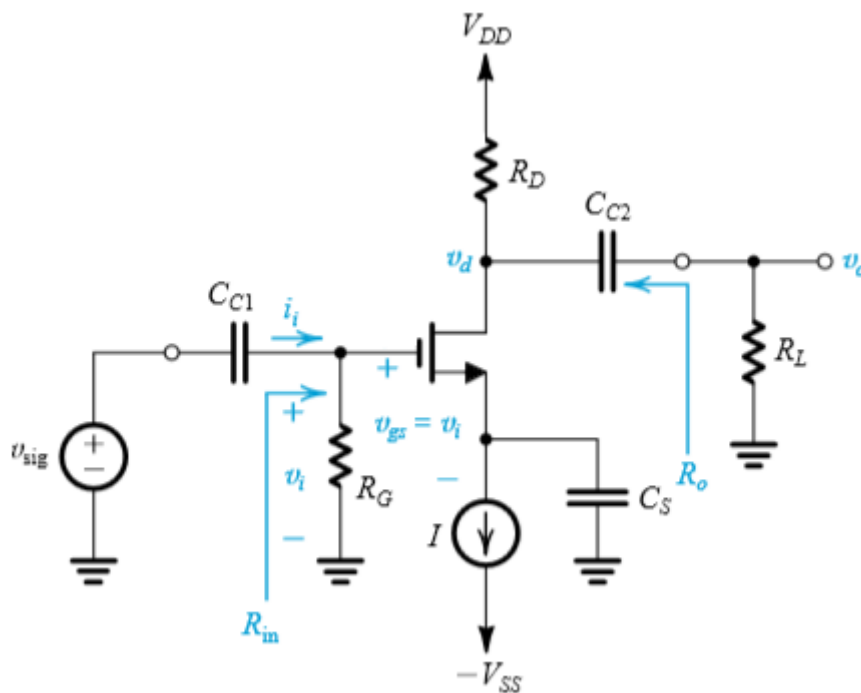
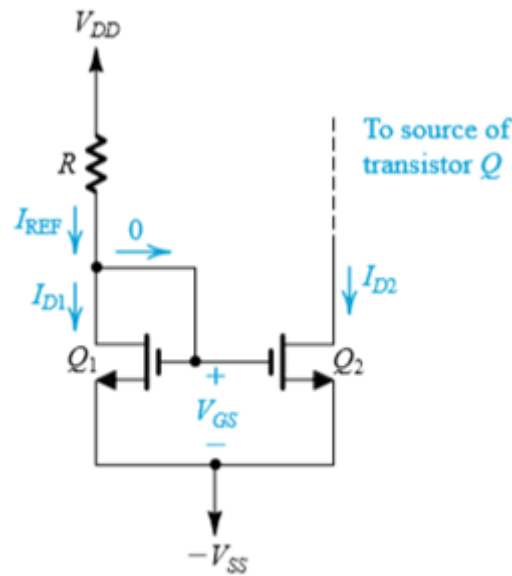

Figure 6: Common-source amplifier circuit with constant current source biasing
Figure 7: Constant-current source circuit to be used for CS amplifier biasing
The current-mirror circuit implemented in Task 4 using MOSFETs can be used as current source for MOSFET biasing. Here,  $R_G$  resistor (usually in range of  $M\Omega$ ) establishes a DC ground at the gate and presents a large input resistance to the input signal source which can be capacitively coupled to the gate. The complete CS amplifier circuit with coupling capacitors and by-pass is shown in Figure 6. The current source connected here for biasing the transistor is shown in Figure 7. The current mirror utilizes positive and negative sources ( $V_{DD}$  and  $-V_{SS}$ ).
1. Implement the CS amplifier circuit shown in Figure 6 using 2N7000 MOSFET. Let,  $R_G=1\text{Mega}\Omega$ ,  $R_D=220\Omega$ ,  $V_{DD}=5\text{V}$ ,  $V_{SS}=-5\text{V}$ ,  $C_1=C_2=10\mu\text{F}$  and  $C_s=15\mu\text{F}$ .
2. In place of current-source, connect the output terminal (drain terminal) of a current-mirror circuit (Figure 7) that establishes drain current of 12mA for the MOS amplifier.